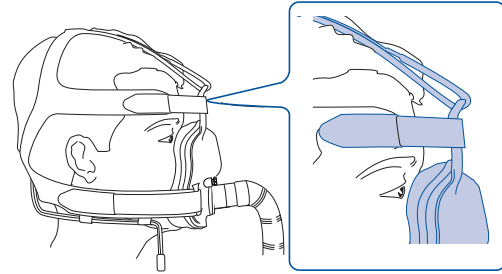

Figure: 6
- 6 The fitted mask should look like this (Fig. 6):